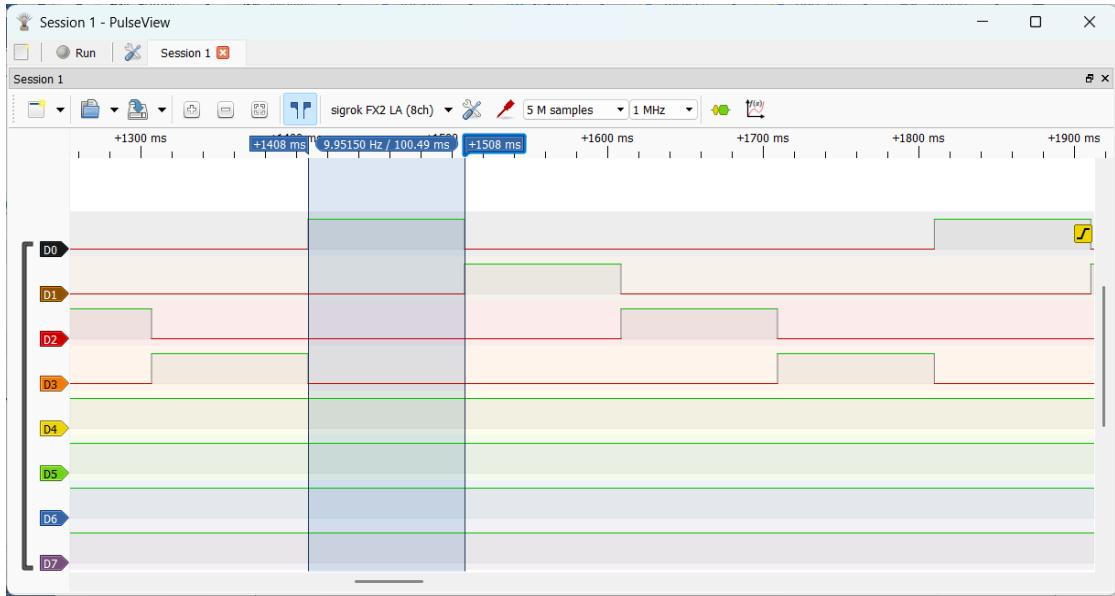

Figure 8: Vertical cursors can be used to measure the pulse width of a signal
- After capturing the signal waveforms, vertical cursors can be used to measure the pulse width or the signal period, as shown in **Figure 8**.